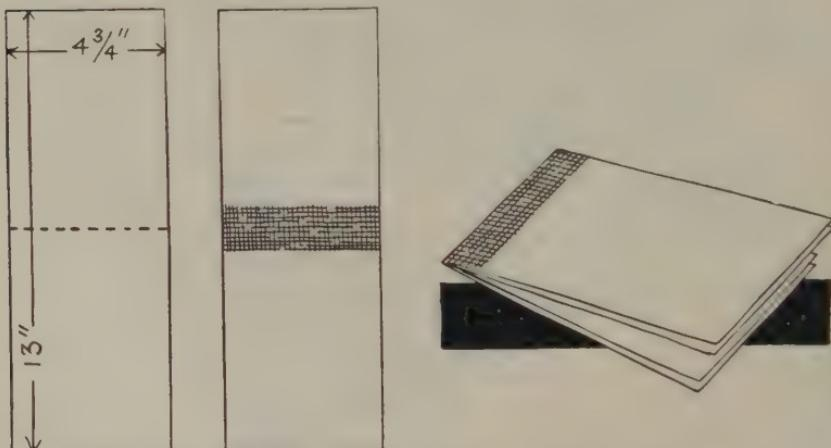

FIG. 227—DIAGRAM OF CUTTING, STRIPPING WITH MUSLIN, FOLDING AND INSERTING END LINING PAPERS
6. Find the center of one of these $13'' \times 4\frac{3}{4}''$ sheets, mark it lightly in pencil, and affix a piece of gummed muslin $\frac{3}{4}''$ wide across the $4\frac{3}{4}''$ width exactly in the center of the $13''$ dimension. (Fig. 227.)